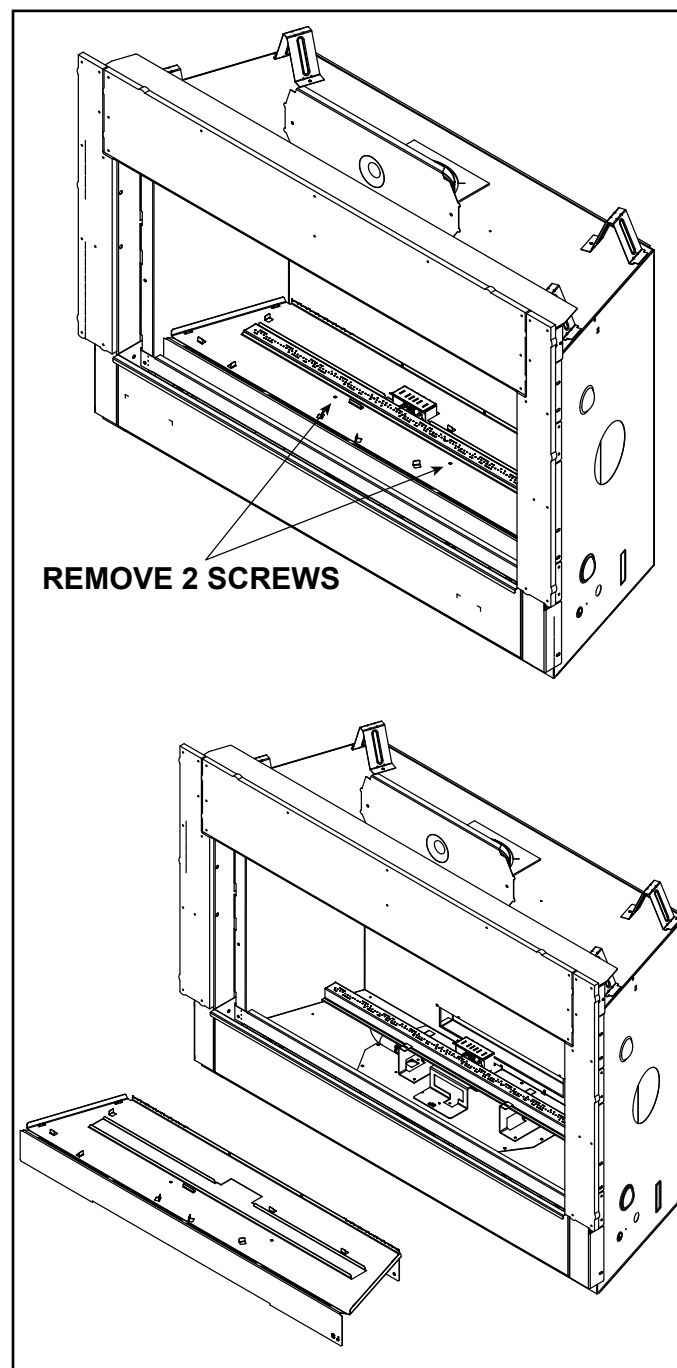

Figure 9.1 Base Pan Removal
1. Locate and remove the two screws that secure the base pan to the appliance. See Figure 9.1. Remove base pan. Retain screws.